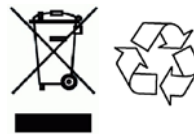

Fig. 14
14. Using the hardware supplied with new battery, connect the battery cables to new battery as shown (Figure 14). Red to positive (+) then black to negative (-) in this order.